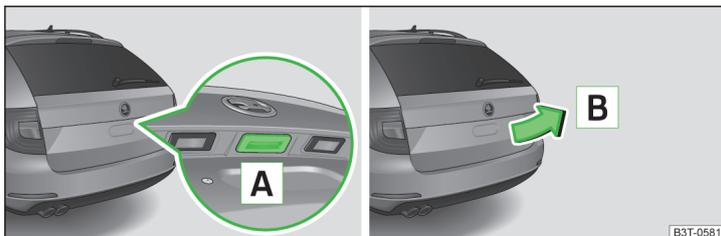

Fig. 40 Boot lid handle/opening the boot lid
- Press the handle **A** » Fig. 40 and raise the lid in the direction of the arrow **B**.